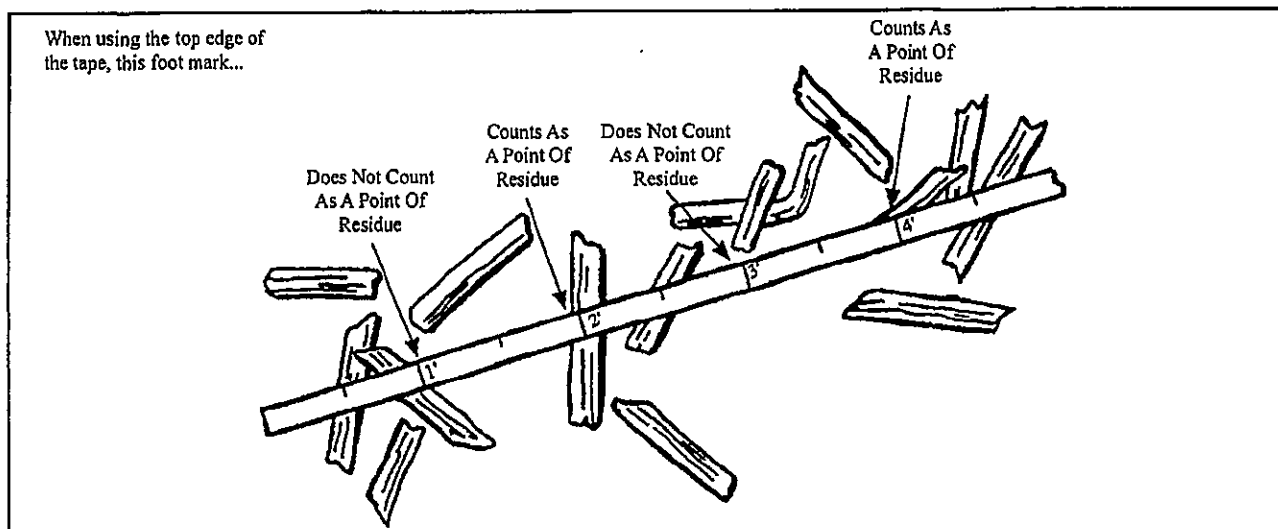

Figure 2. While consistently looking at only one side of the measuring device, count only those marks that have a piece of *residue* beneath them.
- To get an accurate measurement, count only those marks that have residue *exactly* under them (Figure 2).